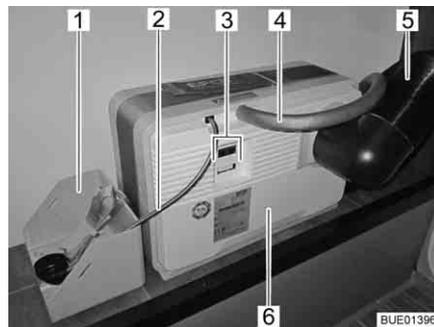
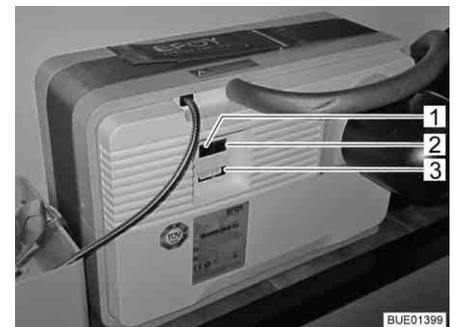

Fig. 173 Fuel cell with tank cartridge
Fig. 174 Connector panel of the fuel cell
The fuel cell consists of several components that are installed in the rear storage space (Fig. 173) and of an operating unit (Fig. 175) in the living area.
The following components are on the fuel cell (Fig. 173,6):
- The connector for the air discharge hose (Fig. 173,4) or the filling hole for the service fluid
- the off-heat tube (Fig. 173,5)
- electrical connections (Fig. 173,3) with data interface (Fig. 174,2), device connection (Fig. 174,3) and connection for the operating panel (Fig. 174,1)
A tank cartridge belongs to the fuel cell (Fig. 173,6). It is connected to the fuel cell via a tank connection (Fig. 173,2).
The tank cartridge is firmly fixed in the tank cartridge holder (Fig. 173,1).